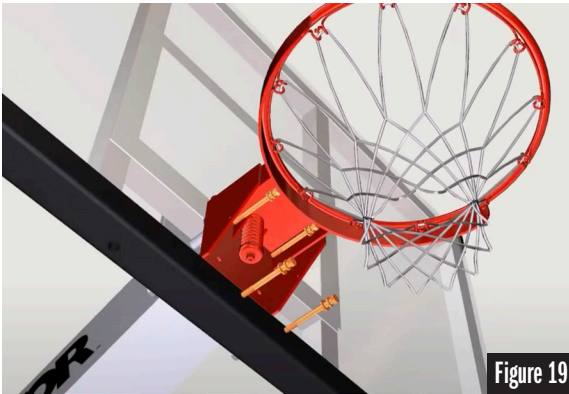

Figure 19
**STEP 12:** Align the Rim on the Backboard and reinsert the hardware into the tubes and tighten. Replace the Cover on the Rim. See Figures 19 & 20.